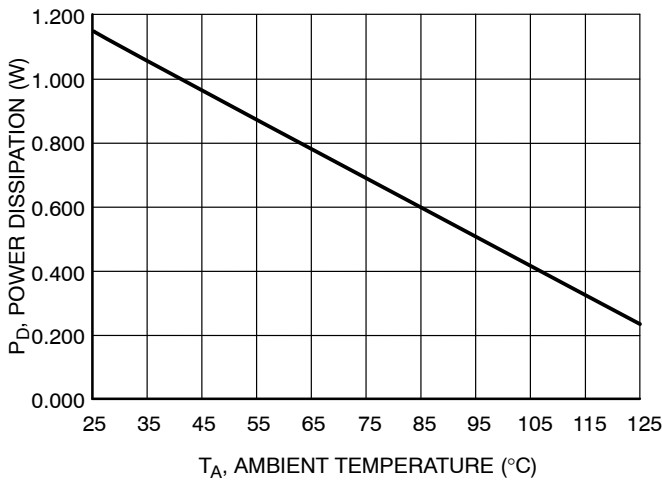

Figure 3. Total Power Dissipation (P_D) vs. Ambient Temperature (T_A)
9. If $P_{D\_total} > 1.13 \text{ W}$ (or derated value per Figure 3), then select the most appropriate recourse and repeat steps 1 through 8: